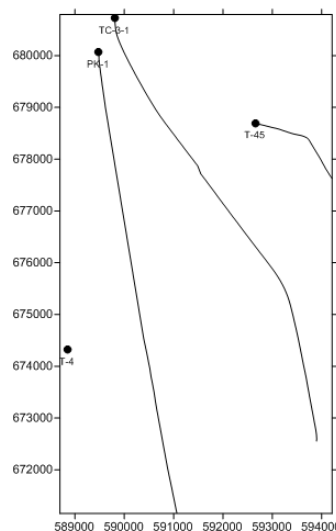

Figure 1.209 – Well locations and deviation paths displayed in the map view
3. Click the *Fit All* button next to the *Fit All* command. All of the wells and their deviations are displayed, fig. 1.209.